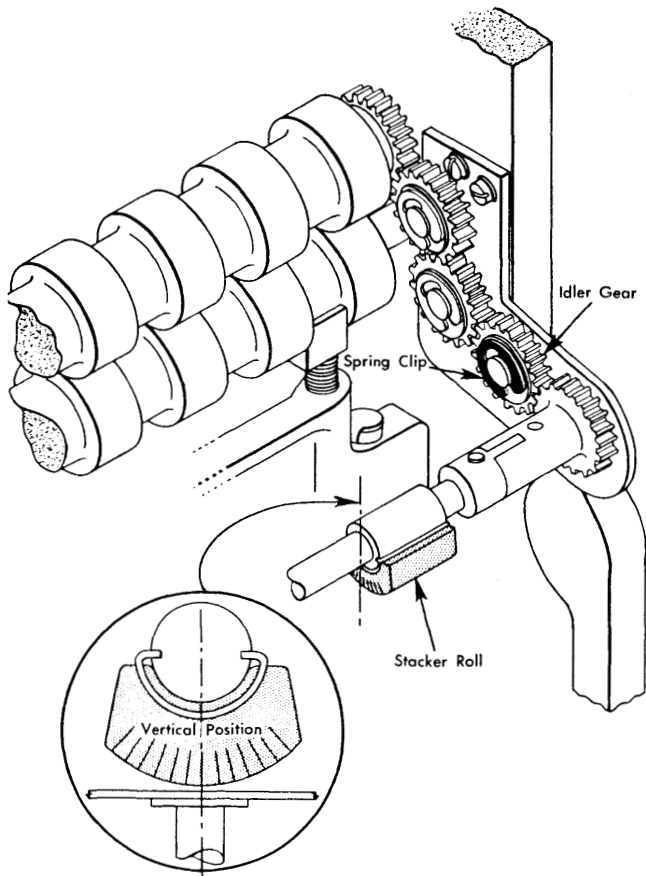

Figure 38. Stacker Timing
##### STACKER ROLL TIMING (FIGURE 38)
3. Position stacker roll in a vertical (high side down) position as shown in Figure 38.
1. Engage clutch and crank machine to index line 4, to position stacker rolls vertically with respect to the stacker plate (Figure 38).